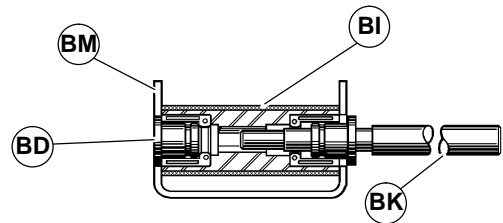

Figure 42
6. Using sleeve arbor tool (BK) as a lever, align pulley bore with conveyor frame opening.
7. Insert retaining sleeve (BD of Figure 42) into pulley (BI) until flush with conveyor frame (BM).